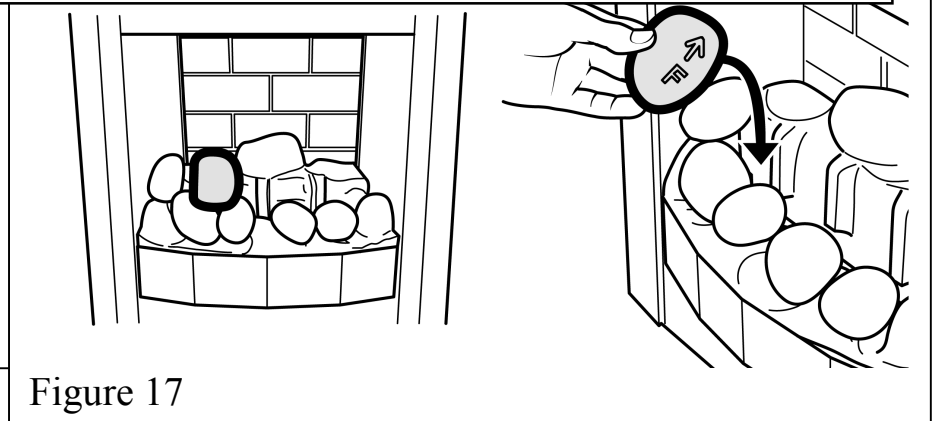

Figure 17
8. Hold pebble 'F' upright with the arrow pointing to the top. Place pebble 'F' between the front and rear base pebbles. It should rest on top of pebble 'A' & 'B'. (See figure 17).